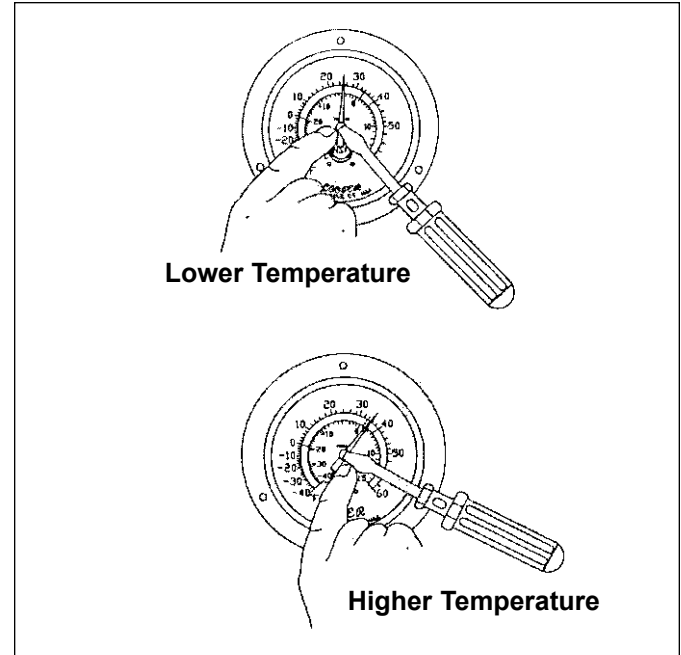

Figure 4.1 - Thermometer Calibration
5. To recalibrate the thermometer, remove it from the cabinet. Using a small, flat screwdriver, remove the lens. Prepare an ice water bath and immerse the thermometer bulb at least two inches into the ice bath. Within 30 seconds the indicator dial should read 32 degrees Fahrenheit. If it does not, it needs to be recalibrated. Do this by placing your index finger on the opposite side of the needle that needs to move. Then, using a flat screwdriver, turn the screw at the center of the dial 1/4 of a turn in the direction you want to move the dial. Repeat the procedure until the needle is on 32 degrees. See Figure 4.1.